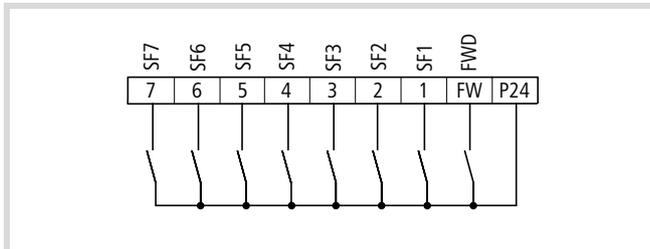

Figure 57: Digital inputs 1 to 7 configured as SF1 to SF7 (bitwise fixed frequency selection).
- ▶ To select a fixed frequency stage, activate the digital input as listed in Figure 57.
The entered value is saved in the parameter which you have selected with the digital input. If you have wired the inputs as shown in Figure 57, the value is saved under PNU A021 when digital input 1 is activated.